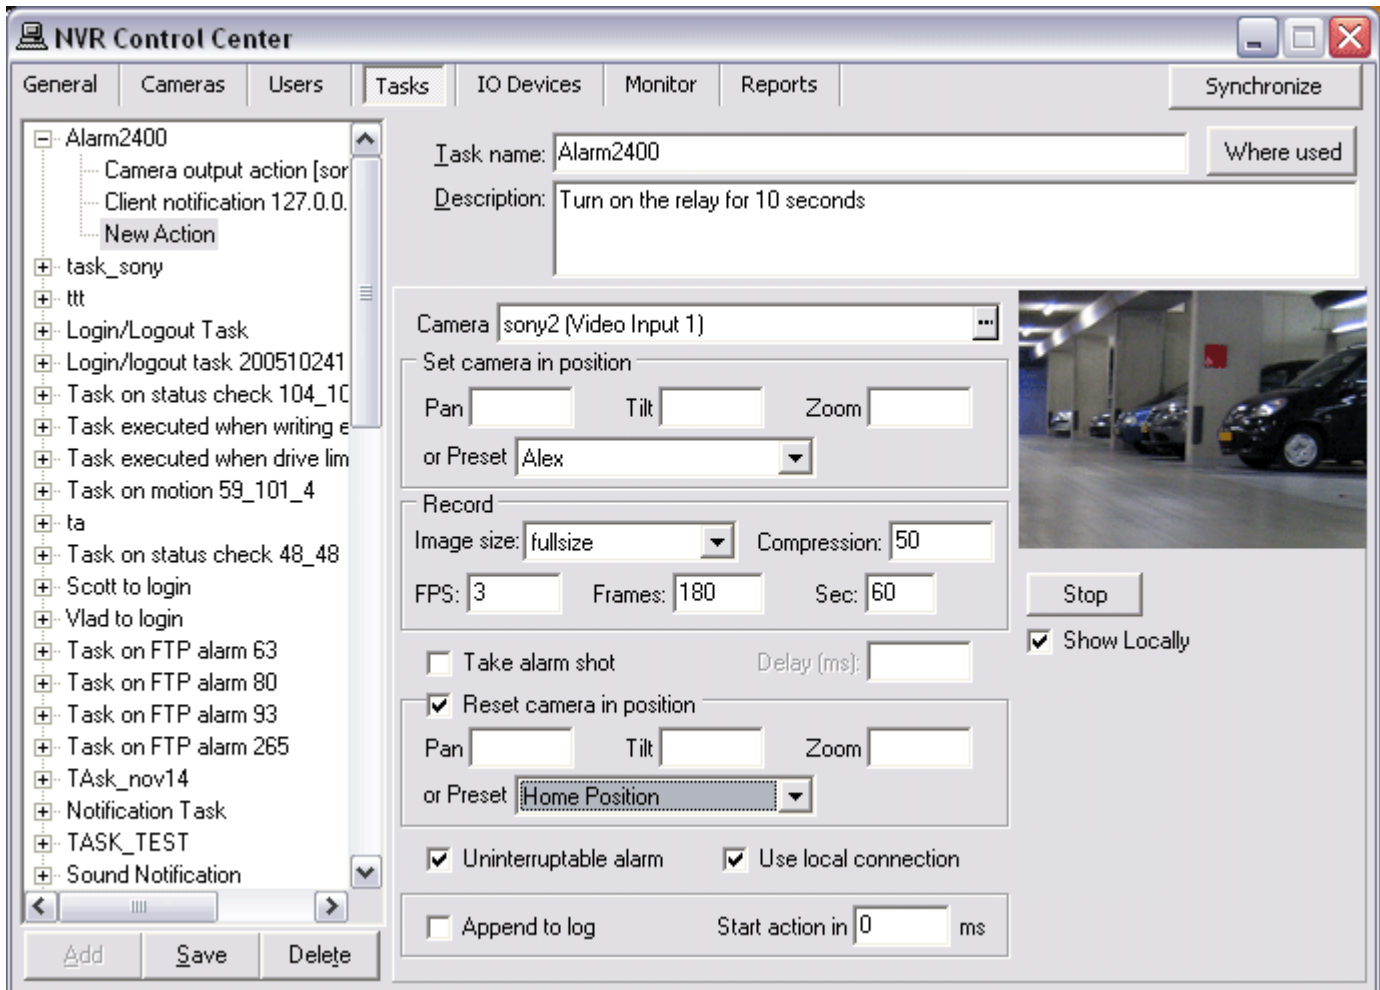

Fig 73. NVR Control Center — Tasks
1. To setup camera recording position under the **Set camera in position** enter **Pan, Tilt, Zoom** parameters or select a preset position from **Preset** drop-down list (Fig 73).